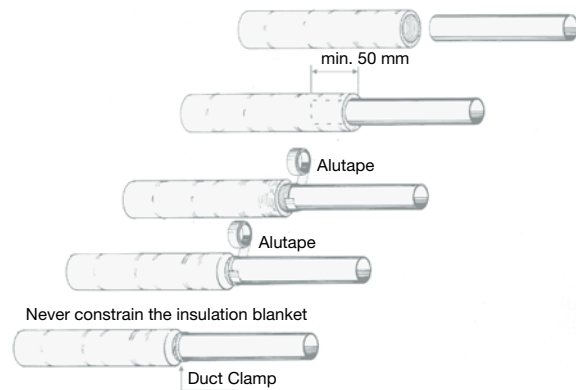

Fig. 9
**The product series** has no ducts, which have already been sealed. But this is possible on request. Ducts which have not been sealed have a maximal output, if the items below have been considered (see fig. 9)